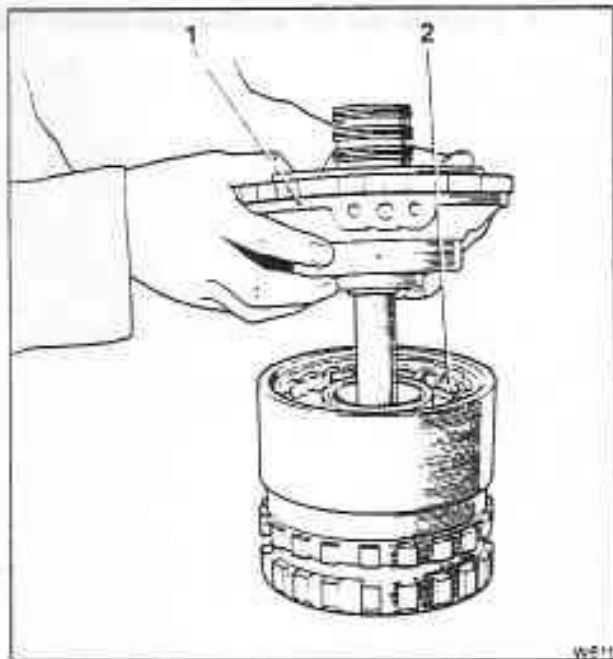

Fig. T19-20 Fitting the centre support into the reaction carrier (roller clutch)
24. Fit the centre support assembly into the roller clutch (see fig. T19-20).